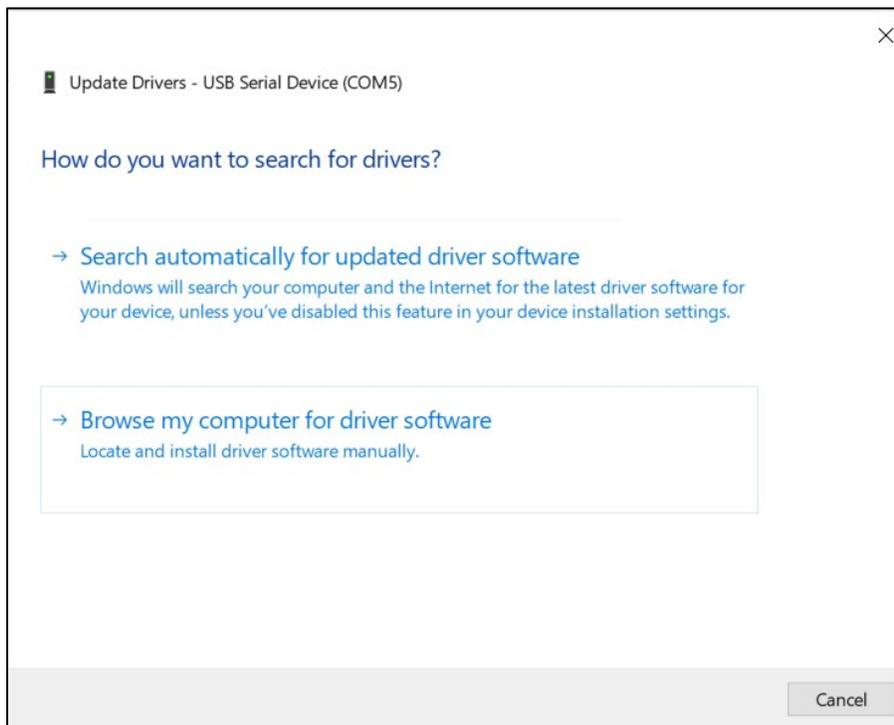

Figure 62-6. Browse Computer for Driver Software
Step 5. Select Browse My Computer for Driver Software as shown in Figure 62-6.